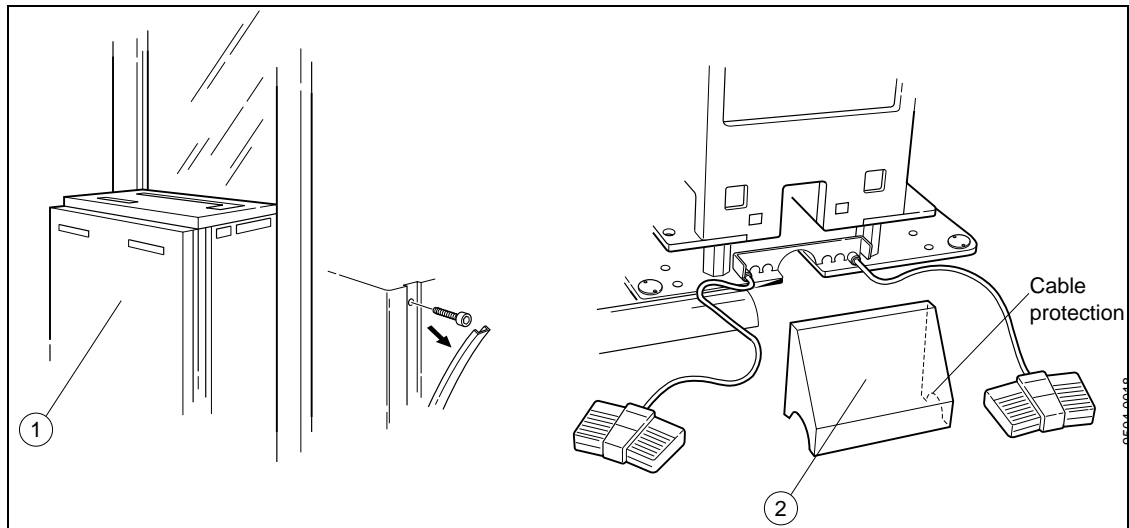

Figure 3.
- Remove the generator front cover (1/Figure 3).
- Remove the cable outlet cover (2/Figure 3).